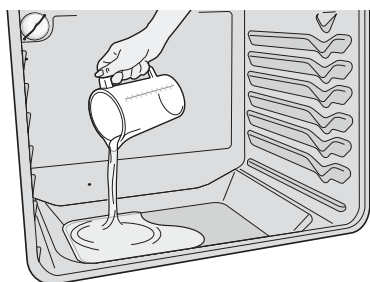

Figure 17: Pour water onto the oven bottom
3. Pour 8 oz (235 ml) of distilled or filtered water onto the oven bottom (See Figure 17). Close the oven door.